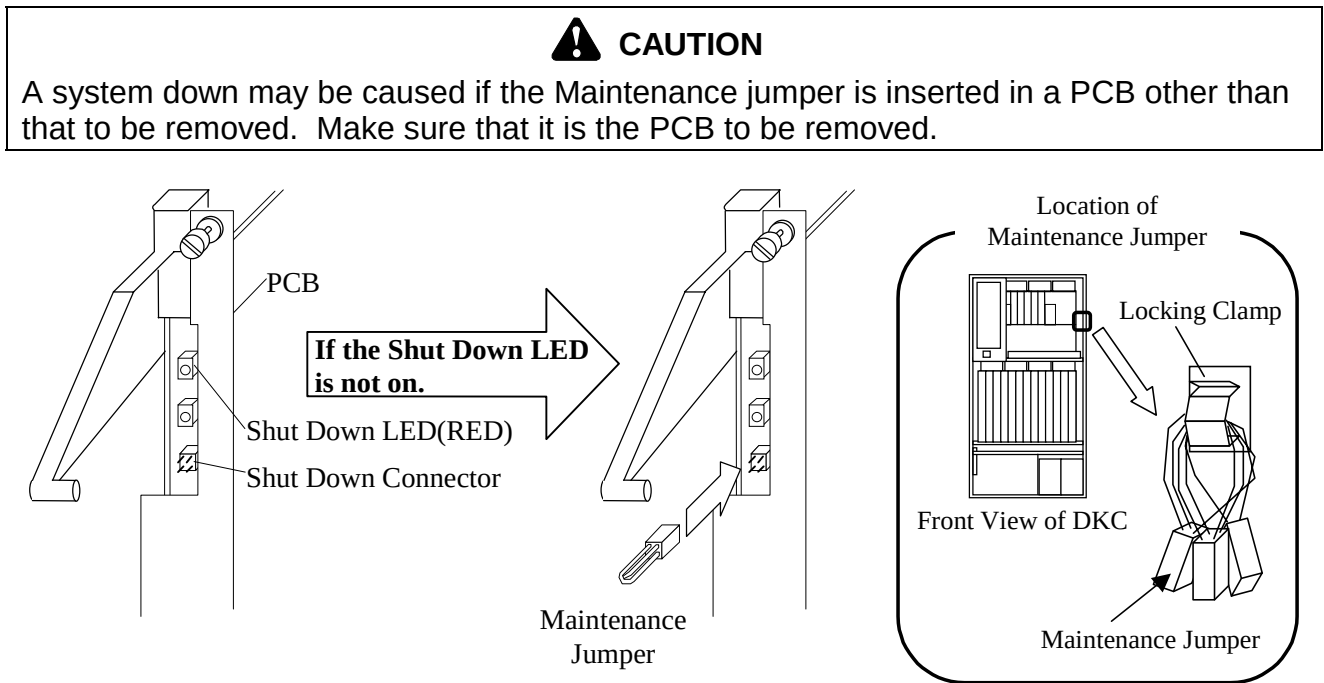

Fig. 4.3.2-1 Location of the Shut Down LED
- a. While referring to Fig. 4.3.2-1, Table 4.3.2-2 and Table 4.3.2-3, check the Shut Down LED on the Cache Memory PCB. Connect the Maintenance Jumper to the Shut Down Connector if the Shut Down LED is not on.